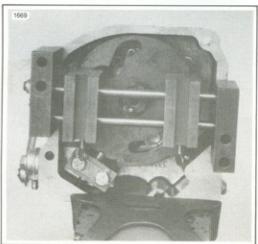

Figure 7-23. Installing Gauge on Plate Shifter Cover
2. See Figure 7-23. Place the FORK SHIFTER GAUGE, Part No. HD-96385-78, on the cover as shown. Make sure the gauge blocks are registered in the cam slots then tighten the thumbscrews.